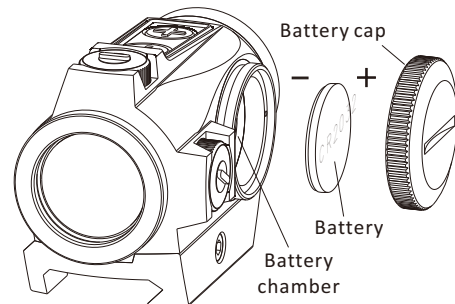

Fig 2
3. Please see the Fig 2 for battery installation and Replacement:
- 2) Insert the battery into the battery chamber with the right marked polarities "+" "-", See Fig2, Take the waste battery out for replacement.